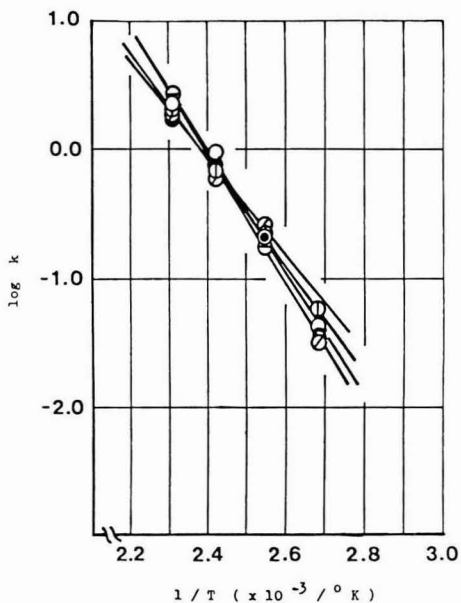

Figure 5—Log k vs 1/T plots. Symbols for DOP contents are same as in Figure 1(A)
In Figure 5, the logarithm of k (the rate constant of cure) ($\log k$) is plotted as a function of the reciprocal of the absolute temperature of cure ($1/T$). As shown in Figure 5, $\log k$ decreases linearly with an increase of $1/T$. Except for the k values of the resin containing 1.96 wt % and 2.90 wt % of DOP measured at 100°C, which deviate largely from the straight lines shown in Figure 5, the slope of $\log k$ as a function of $1/T$ has been calculated by the least square method. The apparent activation energies (ΔE_a) have been calculated from the slope by using equation (3).